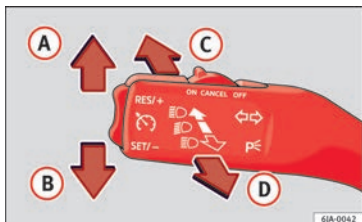

Fig. 47 Turn signal and main beam lever.
- Move the lever » Fig. 47 up (A) or down (B).
- Press the lever » Fig. 47 forward in the direction indicated by arrow (C).
- Pull the lever back to its original position in the direction indicated by arrow (D) to switch the main beam off.
- Pull the lever » Fig. 47 towards the steering wheel (point of resistance) in the direction indicated by arrow (D).
- Move the turn signal lever »» **Fig. 47** »» page 63 up or down to turn on the right or left-hand parking lights respectively.